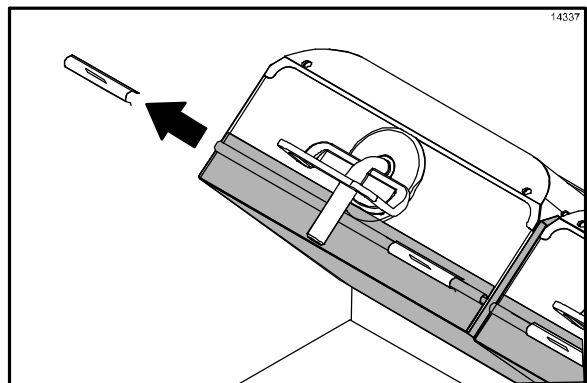

Figure 73
8. Remove the release sheet locking clips, the bars, and the upper and lower release sheets. Wash and rinse the clips and bars in the 3-compartment sink. If necessary, soak them in a hot solution of **SolidSense APSC** to remove carbon accumulation. (See Figure 73.)